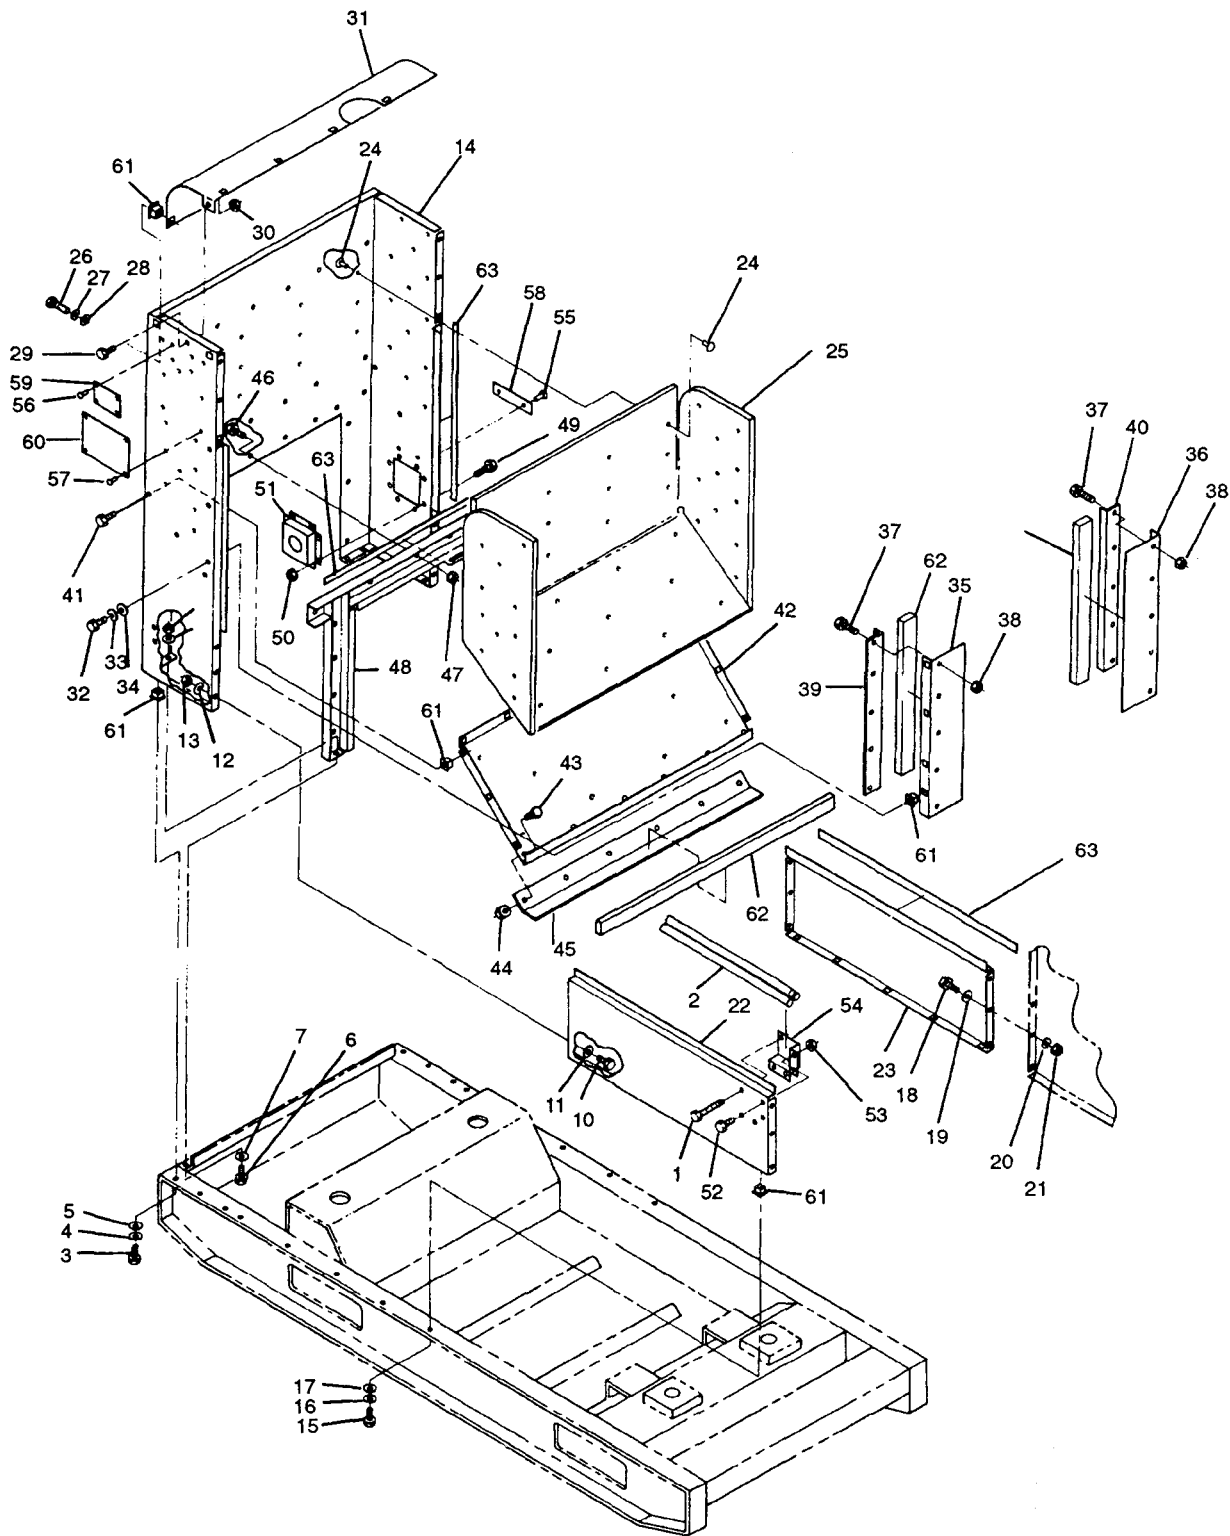

FIGURE 2-8. Generator Set Front Housing Section
- f. Remove bolts (1, FIGURE 2-8) and ground rods (2) from brackets (54).
- g. Remove bolts (3), (6), and (10); flatwashers (5), (7), and (11); lockwashers (4), (8), and (12); nuts (9) and (13); and front panel (14) from generator set.
- h. Remove bolts (15) and (18), flatwashers (17) and (19), lockwashers (16) and (20), nuts (21), and side panels (22) and (23) from generator set.
- i. Remove clip halves (24) and insulation (25) from front panel (14).
- j. Remove bolts (26) and (29), washers (28), lockwashers (27), assembled nuts (30), and air deflector (31) from front panel (14).
- k. Remove bolts (32), lockwashers (33), washers (34), and panels (35) and (36) from front panel (14).
- l. Remove bolts (37), assembled nuts (38), and supports (39) and (40) from panels (35) and (36).
- m. Remove bolts (41 ) and panel (42) from front panel (14).
- n. Remove bolts (43), assembled nuts (44), and support (45) from panel (42).
- o. Remove bolts (46), assembled nuts (47), and support channel (48) from front panel (14).
- p. Remove bolts (49), assembled nuts (50), and slave receptacle box (51) from front panel (14).
- c. Inspect all cage nuts (61, FIGURE 2-8) for cracking or stripped threads.
- e. Inspect seals (62) and (63) for tears, looseness, and deterioration.
- c. Repaint surfaces in accordance with TM 43-0139. (F) Refer to applicable directives.
- d. Replace any cracked or stripped cage nuts (61, FIGURE 2-8).
- f. Replace loose or damaged seals (62) and (63).
- a. If removed, install identification plates (58, 59, and 60, FIGURE 2-8) on front panel (14) with pop rivets (55), (56), and (57).
- b. Install brackets (54) on panels (14) and (22) with bolts (52) and assembled nuts (53).
- c. Install slave receptacle box (51 ) on front housing panel (14) with bolts (49) and assembled nuts (50).
- d. Install side panels (22) and (23) on generator set with bolts (15) and (1 8), flatwashers (17) and (1 9), lockwashers (16) and (20), and nuts (21).
- e. Install support channel (48) on front panel (14) with bolts (46) and assembled nuts (47).
- f. Install support (45) on panel (42) with bolts (43) and assembled nuts (44).
- g. Install panel (42) on front panel (14) with bolts (41).
- h. Install supports (39) and (40) on panels (35) and (36) with bolts (37) and assembled nuts (38).
- i. Install panels (35) and (36) on front panel (14) with bolts (32), lockwashers (33), and washers (34).
- j. Install air deflector (31 ) on front panel (14) with bolts (26) and (29), washers (28), lockwashers (27), and assembled nuts (30).
- k. Install insulation (25) on front panel (14) with clip halves (24).